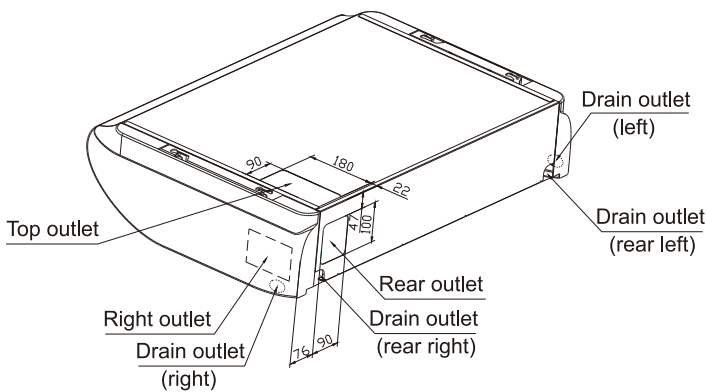

Fig. 3.3.3
- ※ Pipes can be taken out in 3 directions (rear, right or top). (See Fig.3.3.3)